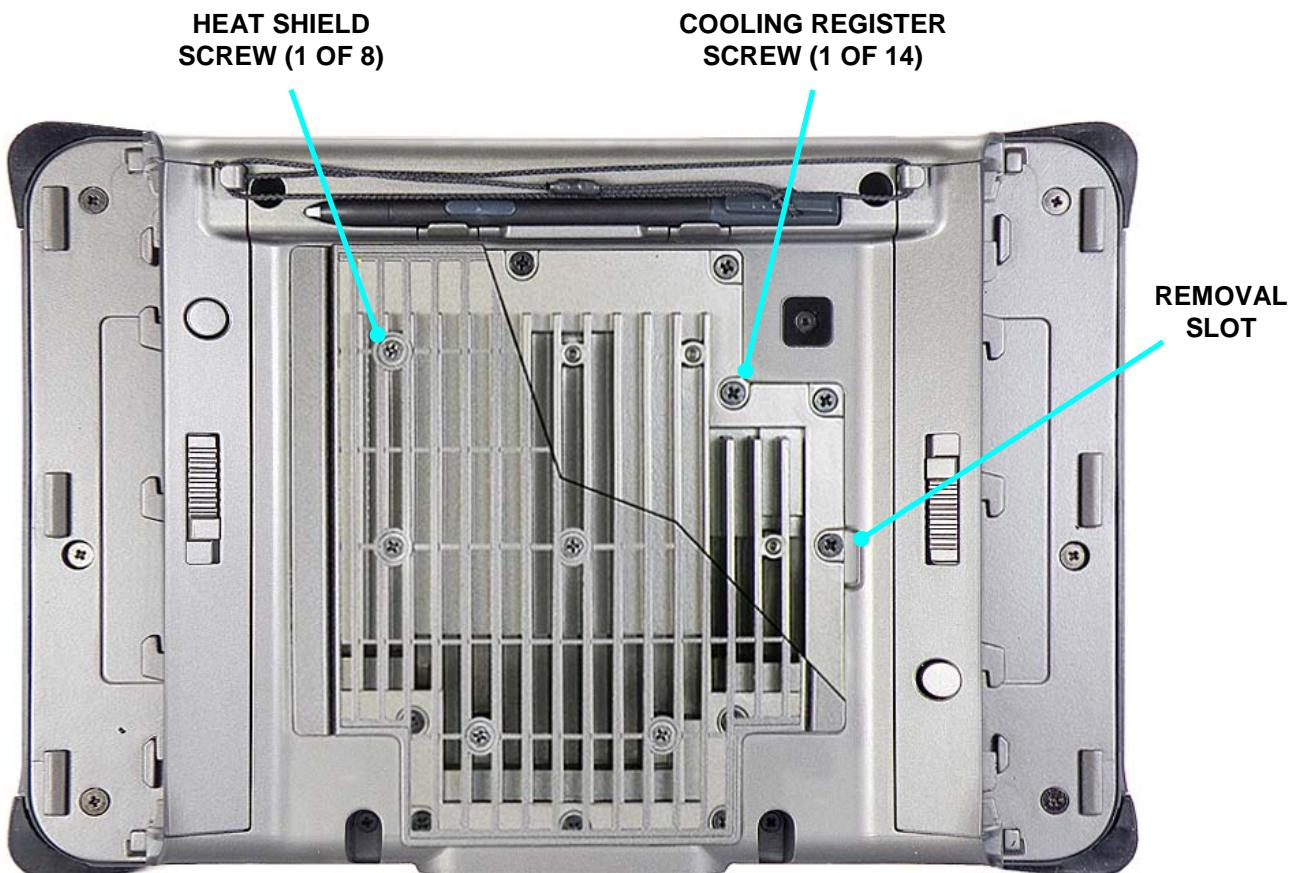

Figure 89. ARMOR X7 Cooling Register and Heat Shield Screws
Perform the procedure in Table 23 to properly remove the heat shield and cooling register. The location of the heat shield and cooling register screws are shown in Figure 89 (NOTE: The heat shield in this figure is shown cut away to expose the cooling register screws underneath).
5.	Carefully pry up the cooling register using the removal slot provided (Figure 89) and remove.